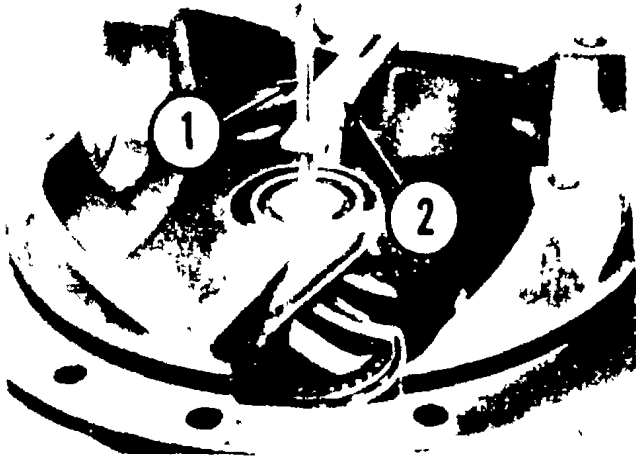

Fig. 26. Locating Step Plate Clamp
2. Attach the step plate clamp assembly to the carrier flange and locate step plate clamp screw over the center of the pinion as shown in Fig. 26.